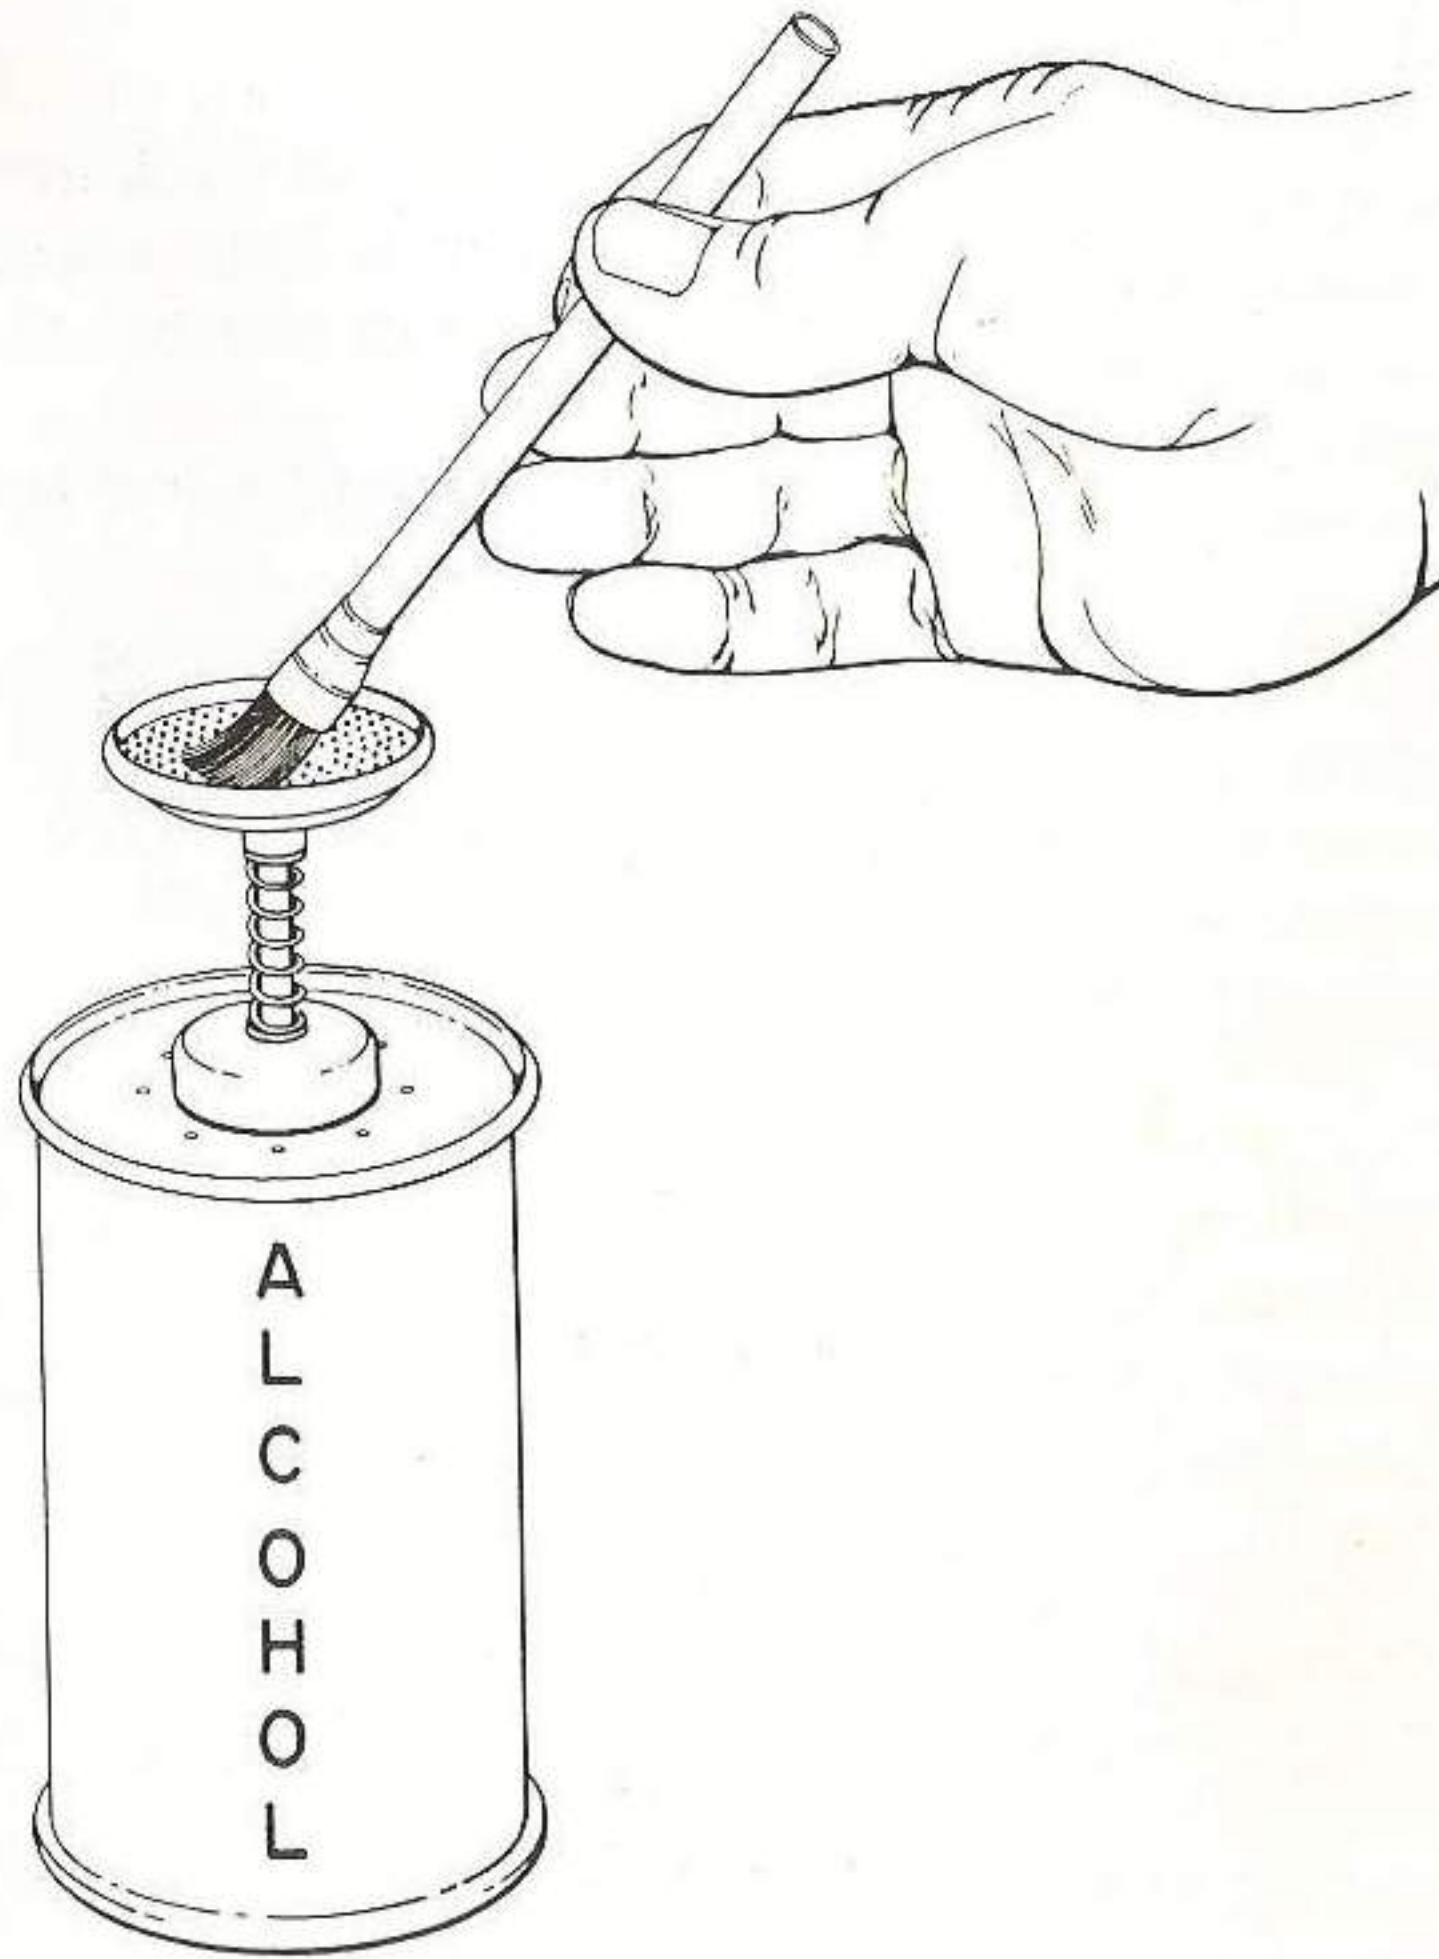

Figure 11. Brush and Solvent
f. Excess flux shall be removed with a medium still bristle brush dipped into an approved solvent. See figure 11.